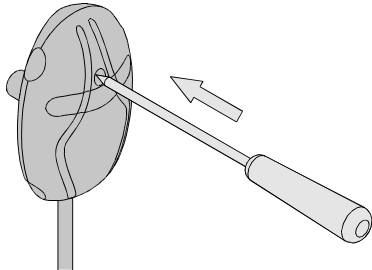

Figure 9. Reset button for overheat protector
- The sensor box contains a temperature sensor and an overheat protector. If the temperature in the sensor's environment rises too high, the overheat protector cuts off the heater power. Resetting the overheat protector is shown in figure (>> Figure 9. Reset button for overheat protector).